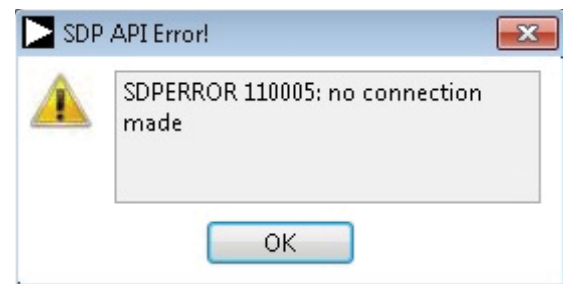

Figure 16. SDP-H1 Board Not Connected to USB Port Error
- If **C**ancel is clicked, a message appears, as shown in Figure 16.